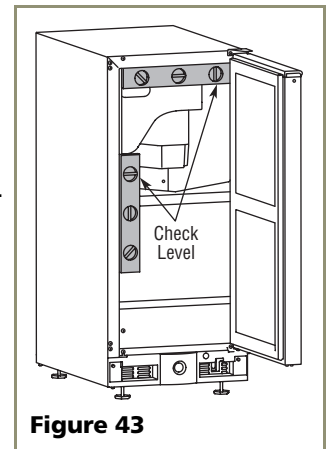

Figure 43
1. Use a level to check the levelness of the ice maker from front to back and from side to side. Level should be placed along top edge and side edge as shown (see **Figure 43**).